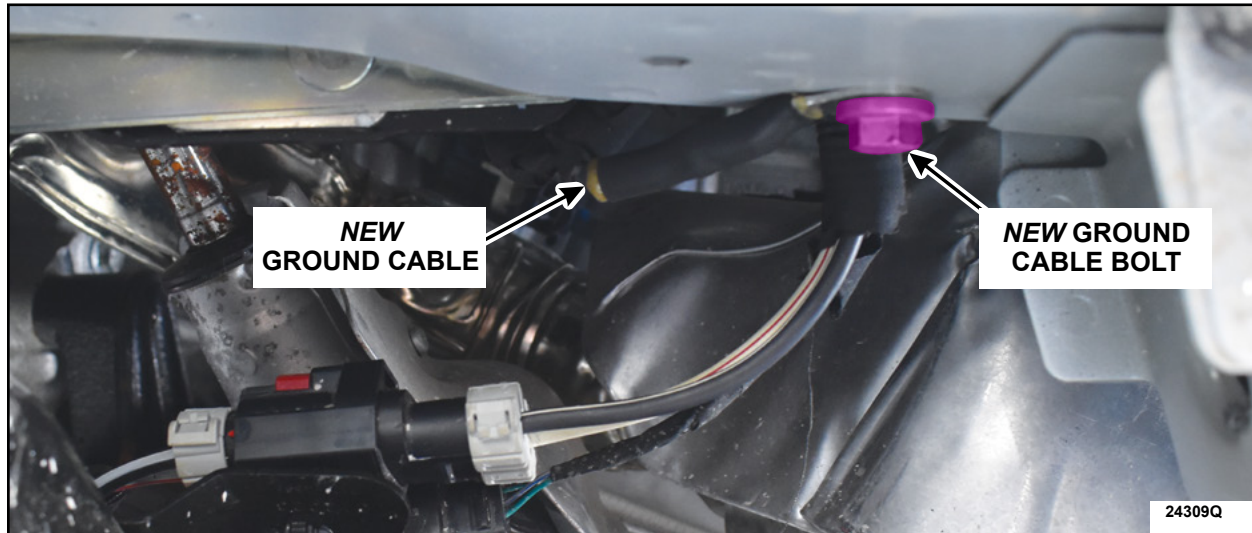

FIGURE 16
19. With the flat side of the eyelet against the body of the vehicle, install the *new* ground cable bolt. See Figure 16.